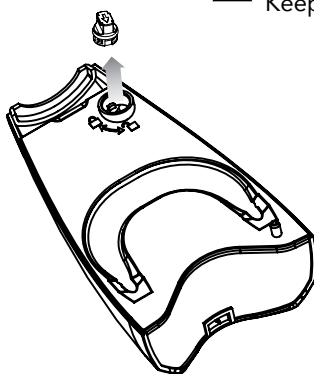

FIGURE 2
2. Remove Water Tank Cap by unscrewing it in a counter-clockwise direction to unlock. Pull Water Tank Cap out (Figure 2). Fill Water Tank with room temperature water, up to 15 oz. (444 ml.), and replace Water Tank Cap so that the grooves on top and bottom of Water Tank Cap align with the tabs inside Fill Hole. Screw Water Tank Cap in a clockwise direction to lock (Figure 3).